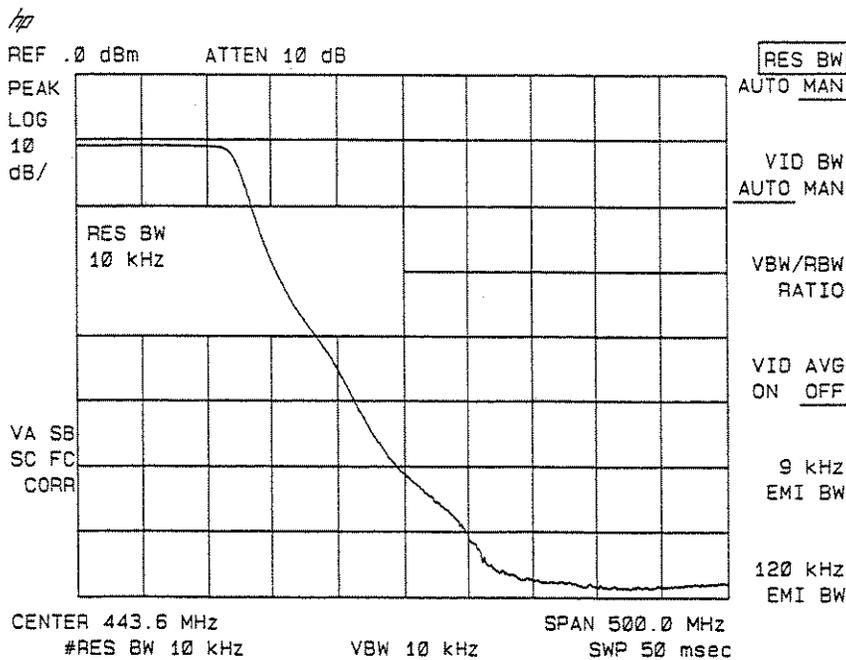

Figure 2-39. Decrease the Resolution Bandwidth to Improve Sensitivity
- Decrease the resolution bandwidth to increase sensitivity, and narrow the video bandwidth to smooth the noise. In Figure 2-39, the resolution bandwidth has been decreased to 10 kHz.